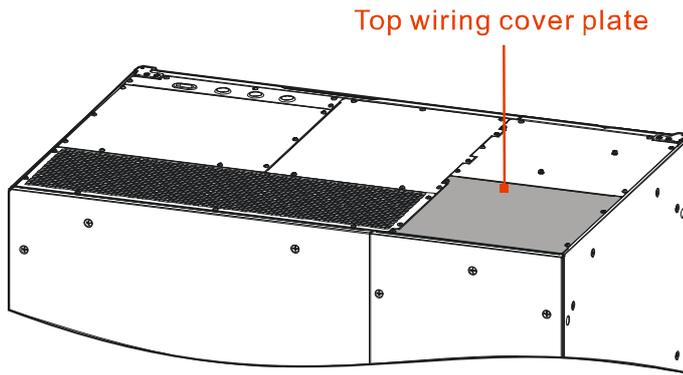

Figure3-27 Top wiring cover plate position of BM33500、 BM33600
Step 2 Unscrew the fasten bolts of top wiring cover plate (as shown in Figure3-27) by screwdriver and take them down.